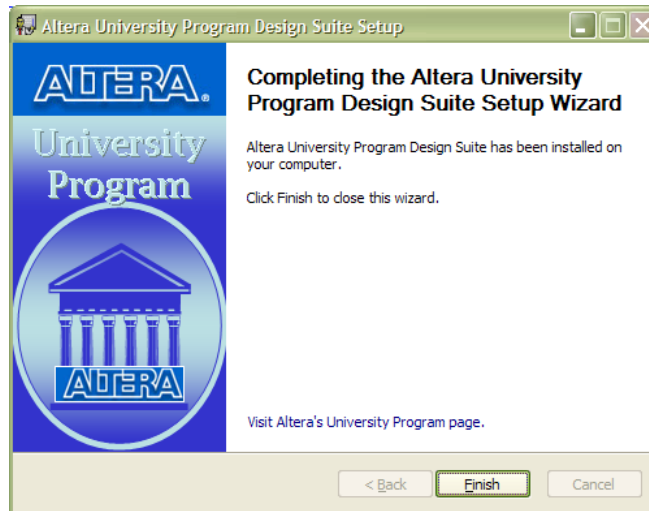

Figure 5. Altera UPDS installation finished.
6. Assuming that the installation was successful, the screen shown in Figure 5 will be displayed. Click on the **Finish** button to complete the installation. Should an error occur, a window will suggest the appropriate action. Errors include: